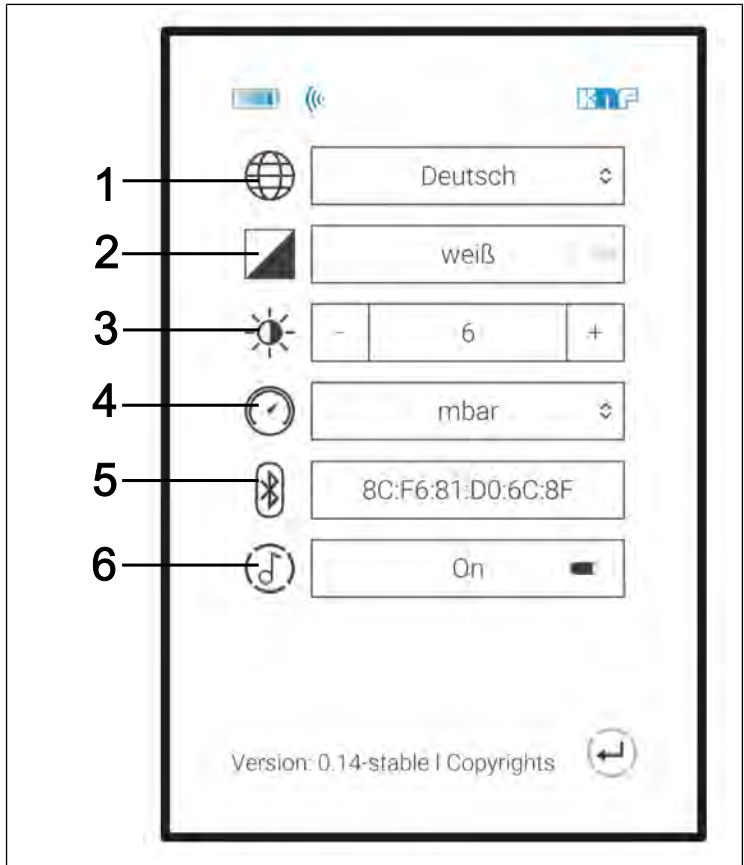

Fig.16: Menu: Settings
- Menus for selecting the unit for the pressure display (Fig. 16/4).
In Settings (Fig. 16), you can choose from the following menu languages: German, English, French, Italian, Spanish and Dutch (Fig. 17).
The pressure unit can be selected by going to Settings (Fig. 16) and selecting the Pressure unit menu there (Fig. 16/4).